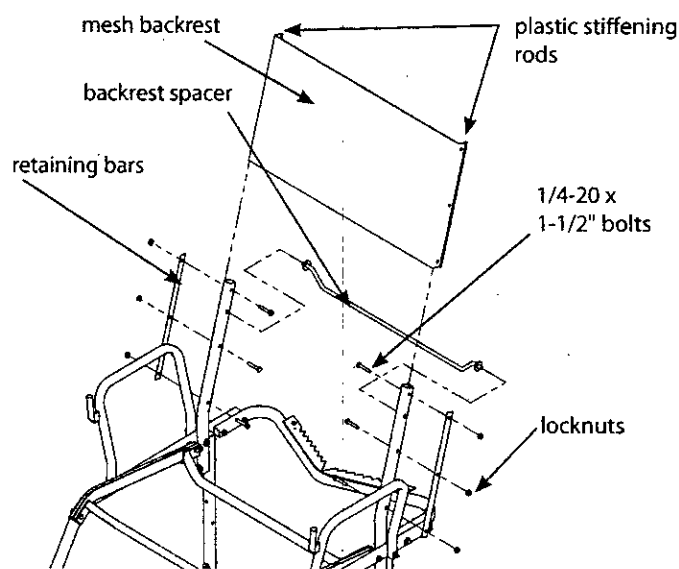

Figure 10
13. Attach the mesh backrest (360012) and the (2) retaining bars (410081) to the backrest mounts using (6) provided 1/4-20 x 1-1/2" bolts and locknuts. **SEE FIGURE 10.** The mesh backrest must wrap around the front side of backrest mounts and the plastic stiffening rod located in the sewn sleeve on each side of the backrest **MUST** be positioned behind the backrest retainer bars to act as a stop and prevent the backrest from pulling out during use. All bolts **MUST** go through the backrest retainer bars, the holes provided in the backrest and the backrest mounts. **SEE FIGURE 10.**
14. Insert the backrest spacer (410119) into holes provided on backrest mounts. This must be done prior to any tightening of bolts. **SEE FIGURE 10.** You must now tighten all nut & bolt assemblies. Be sure not to over tighten or crush tubing when tightening!